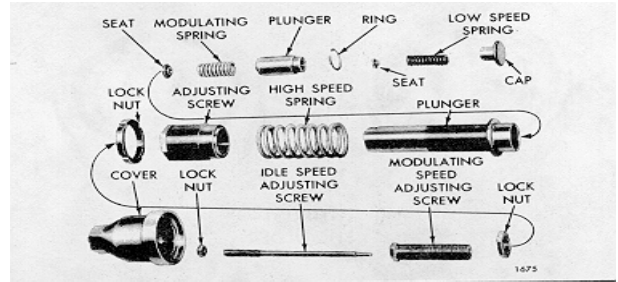

Fig. 6 - Governor Springs, Plungers and Adjusting Screws (Fuel Modulating Governor)
1. Thread the idle speed adjusting screw into the modulating spring adjusting screw; then, thread these two pieces into the high speed spring plunger (Fig. 6).